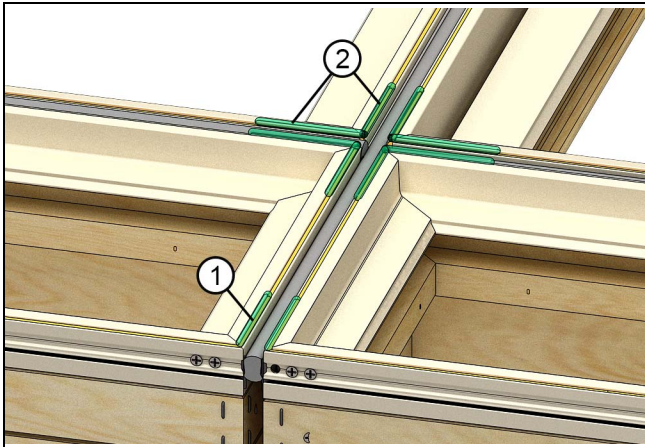

Figure 36
2. Apply a 1/8" bead of clear sealant 2-3" long on each end of the mull and at any intersections along both edges of the mull. See Figure 36.